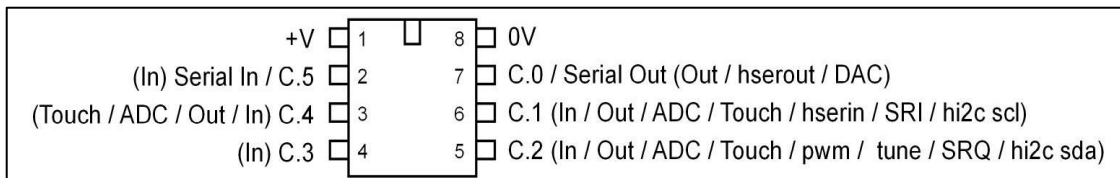

Figure 14
d. Figure 14 shows the pinout layout of PIC1, used in the circuit. Answer the following question referring to the IC shown.
i. What do we call the sheet where one would find the type of detailed information shown in Figure 14? (Underline correct answer)